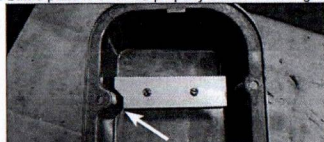

Fig 2. - Big Block Chevy Baffle Plate Installation
- Big Block Chevrolet:** Please make sure baffle plate is oriented properly before installing the baffle screws (Fig 2).